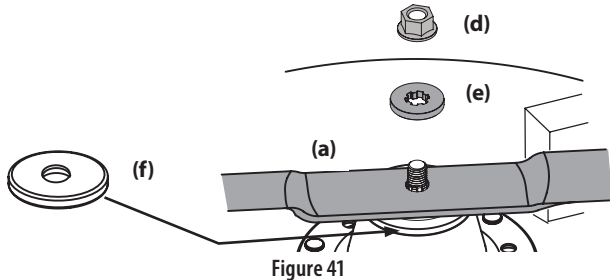

Figure 41
- Remove the flange nut (d) and flat washer (e) securing the blade (a) to the mower and remove the blade. See Figure 41.